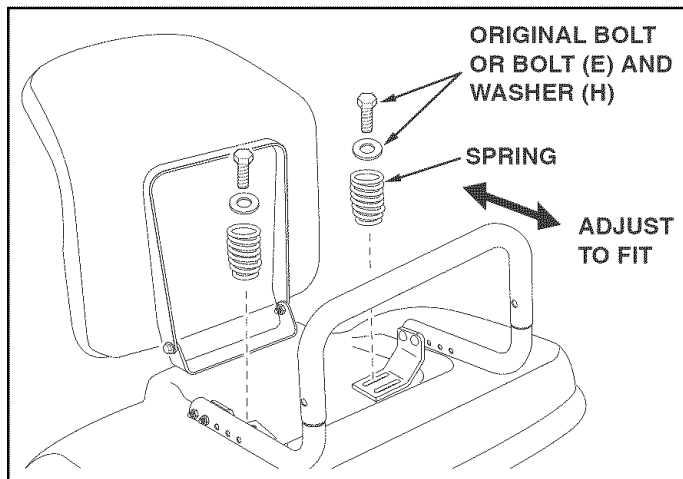

FIGURE 7
STEP 7: (SEE FIGURE 7)
- If the base leg tubes rub against the fender, attach the adhesive pads (K) to the bottom of the base leg tubes.
- Attach the seat springs and the base brackets to the rear fender using the spring bolts that you removed. On GT tractors, if the spring bolts were less than 1" long, use the 5/16" x 1" bolts (E) and 5/16" washers (H) supplied with the Snow Cab. Align the base leg tubes on the rear fender. Use a 1/2" socket (GT) or a 9/16" socket (LT) to tighten the seat spring bolts **using moderate force. Do not overtighten.** Next, **tighten** the bolts fastening the base leg tubes to the base brackets.